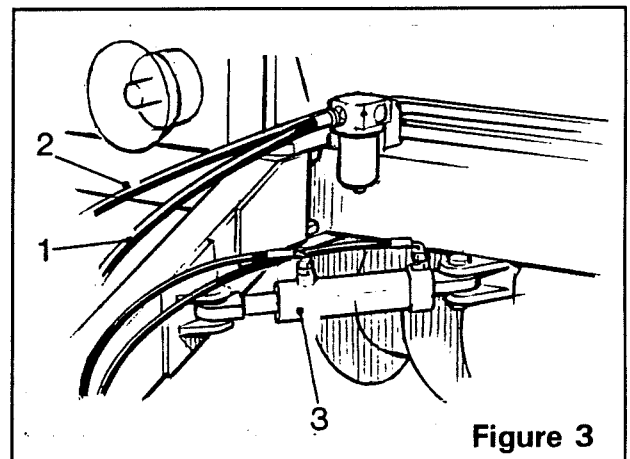
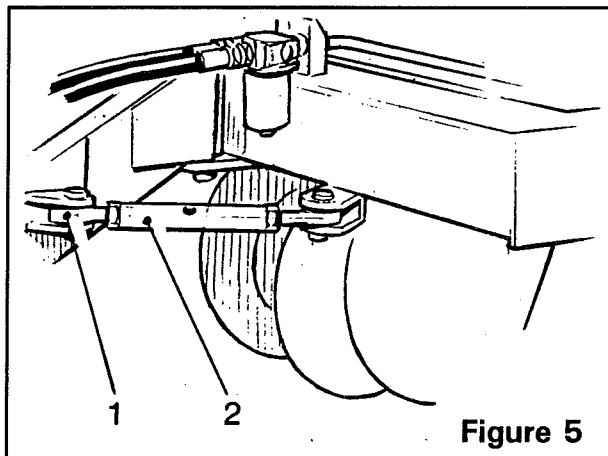

Figure 3
Figure 5
1, Connect the hydraulic pressure hose (item 1, figure 3) (the hose connected to the pressure filter) to the tractor supply port. **The tractor must be set up to give a constant flow of 6 gallons/minute.**
2, Connect the hydraulic return hose (item 2, figure 3) to the tractor return port.
3, Connect the two hoses from the drawbar ram (item 3, figure 3), if fitted, to the tractor double acting spool valve.
The drawbar is fixed to the machine by a pivot pin. This provides easy manoeuvrability of the harvester to align it with the crop. The adjustment is provided by an adjusting stay (item 1, figure 5) or an optional hydraulic ram (item 3, figure 3). To adjust the drawbar manually, simply turn the bar (item 2, figure 5). To adjust the drawbar hydraulically, actuate the double acting spool valve on the tractor.